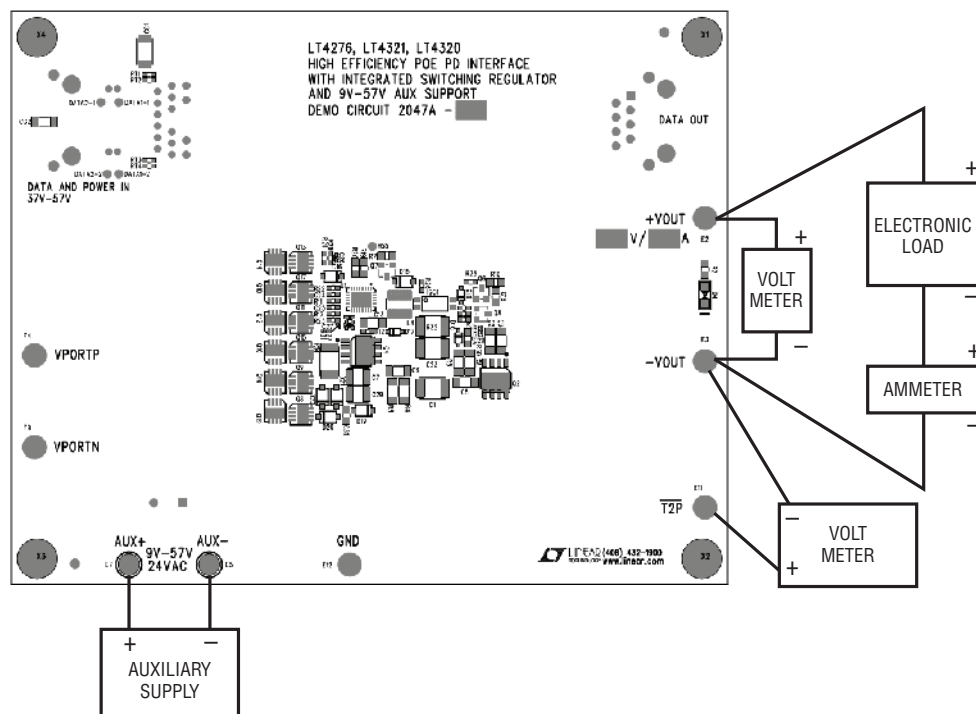

Figure 8. Setup Diagram for Auxiliary Supply Input
1. Place and connect test equipment (voltmeter, ammeter, oscilloscope, and electronic load) as shown in Figure 8.
3. Connect the output of the auxiliary supply to the DC2047A as shown in Figure 8. Turn on the auxiliary supply and set its current limit to 1A. Then increase its output voltage to 48V.
6. Verify $\overline{T2P}$ response with a voltmeter as shown in Figure 8. The $\overline{T2P}$ response during auxiliary power operation is: $-V_{OUT}$ to $-V_{OUT} + 0.5V$.